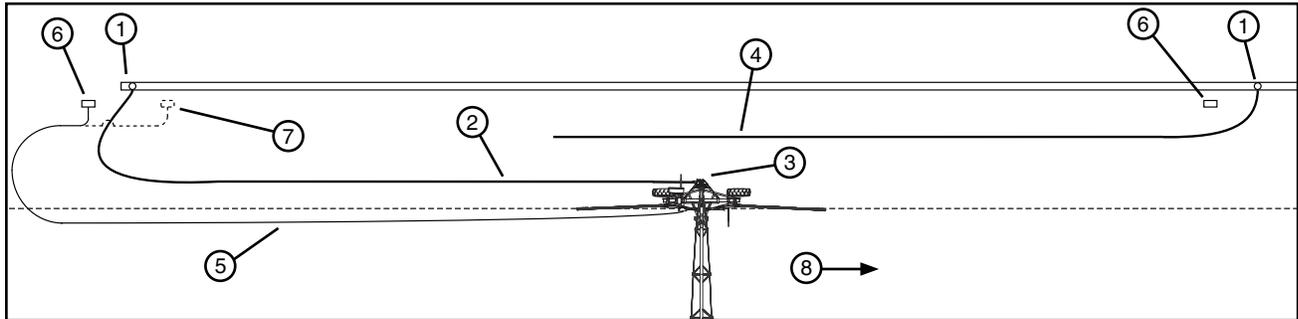

Figure 55-1 1. Shut Off Valve 3. Swivel Inlet 5. Electric Cord 7. Alternate Power Pedestal Location and Electric Cord Position
6. As the machine approaches the end of field/hose stop post, stop the machine and close the water shut off valve for the first hose. See Figure 55-1.